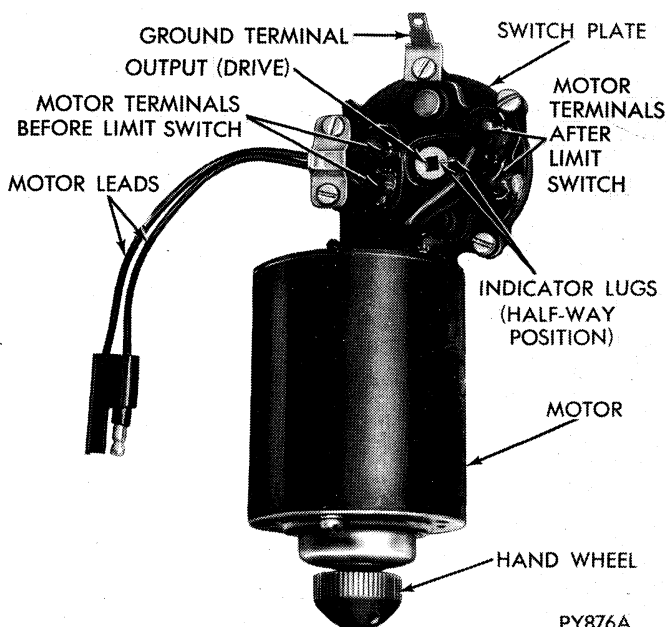

Fig. 3—Aligning Indicator Lugs
(2) Using jumper wires test motor operation by using the car battery as a source of power. Apply power to motor terminals after limit switch and check motor operation in both directions (Fig. 3).
(3) If motor draws current but does not operate in either direction, motor has an internal short circuit or a locked armature condition and should be replaced. If motor draws no current, then there is an open circuit and motor should be replaced.
(4) If motor operates, test limit switches by applying power to motor terminals before limit switch. If motor operates in both directions the limit switches are functional.
(5) If the limit switches are not functional, perform the gear and limit switch test as detailed in Service Procedures below.
(6) Use jumper wires at bulkhead disconnect, to see if there is voltage at the terminal for both lights on and off. If there is no voltage for either door position, perform Step (7).
(7) Test for loose wire at "H" terminal of headlamp switch, headlamp motor relay and for faulty circuit breaker.
(1) Disconnect battery ground strap and motor leads including ground wire from harness.
(2) Rotate hand wheel on motor COUNTER-CLOCKWISE if doors are open. Rotate CLOCKWISE if doors are closed. Rotate until headlamp doors are at halfway open position (Fig. 3).
(3) Compress and remove clips from crank assemblies.
(4) Remove torsion bar from slotted areas in cranks as described in headlamp door removal.
(5) Remove motor mounting bracket (2 bolts) from vertical lock support and remove torsion bar from motor.
(1) Position motor on mounting bracket and install mounting screws. Verify that motor is in halfway open position (Fig. 3). Tighten attaching screws to 60 inch pounds, plus or minus 15 inch pounds.
(2) Insert torsion bar in motor and position clips on bar. The torsion bar and the hole in the motor are rectangular and can be assembled only one way.
(3) Position motor mounting bracket on vertical lock support and tighten attaching bolts to 220 inch pounds.
(4) Position and seat torsion bar in slotted areas of cranks. Compress clips. Position over cranks and torsion bar.
(5) Connect motor to harness, connect battery ground strap and test operate.
(1) After removing torsion bar and motor, remove screws from switch plate. Be sure that indicator lugs are accurately lined up.
(2) Hold gear in place by pushing the output (drive), as shown in Figure 3. Carefully remove switch plate.